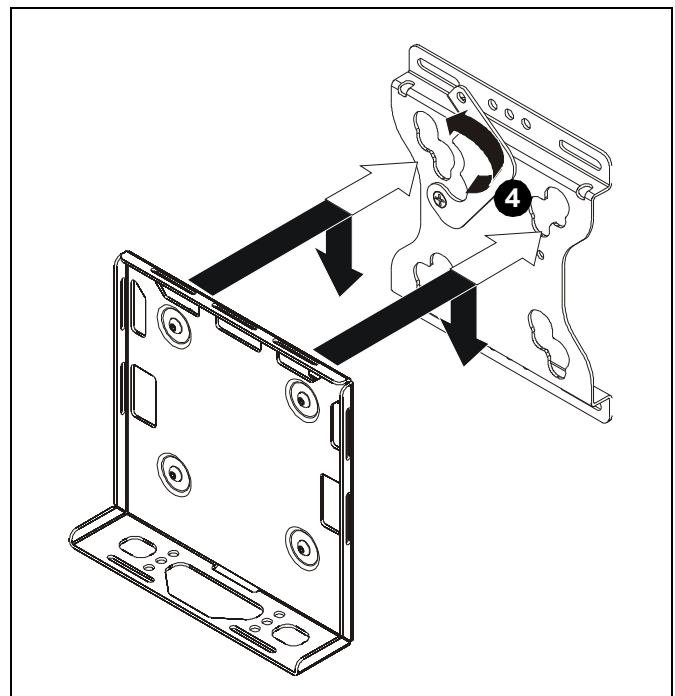

Figure 3
1. Install FSR assembly (H) to wall according to FSR installation instructions.
3. Maneuver media player mount (A) so that all mounting buttons fit into openings of FSR (H). See FSR Installation Instructions for further details.
4. Move latching flag into closed position to secure bracket to FSR. (See Figure 3)